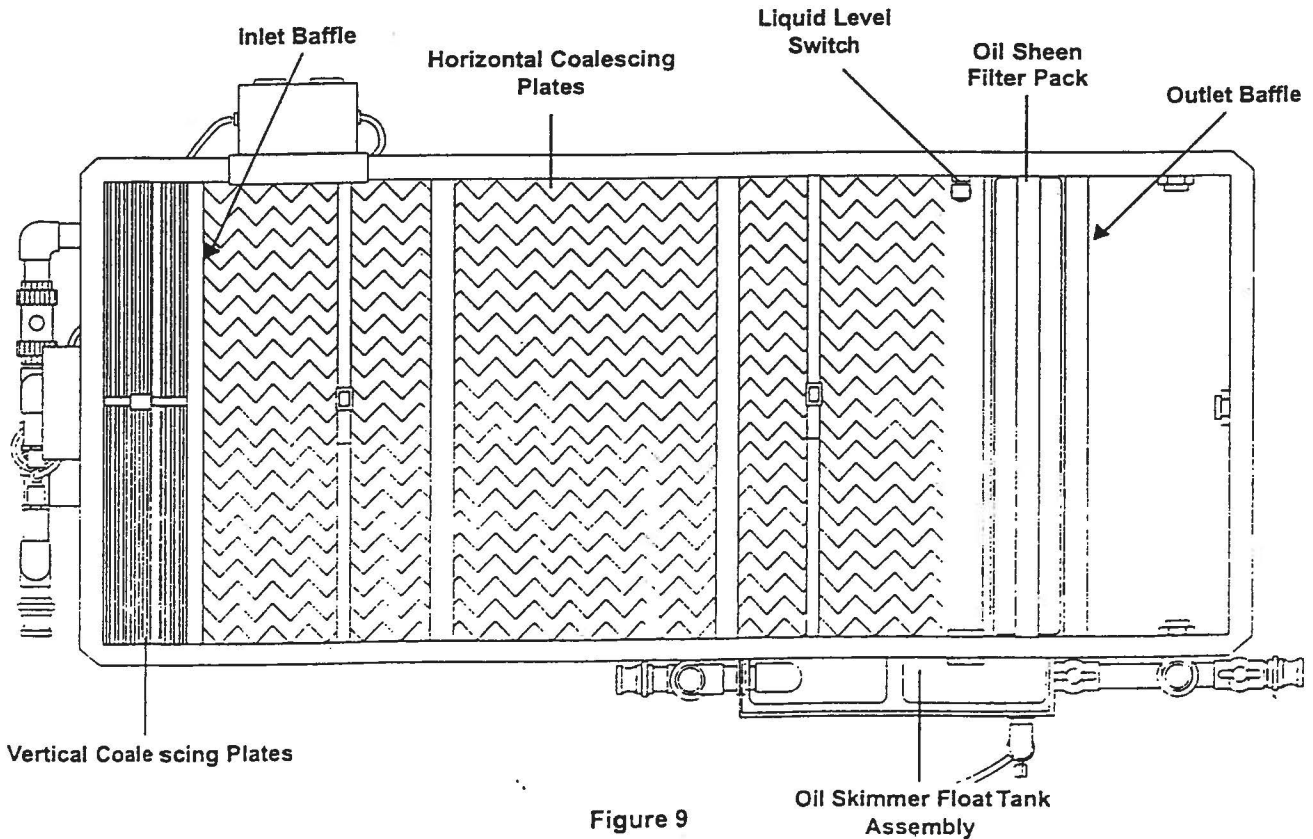

Figure 9
- ◆ Remove the filter pack (suitcase like filter, see Figure 9 for location) by removing the retaining bracket and lifting up with the handles on the filter, as shown below.